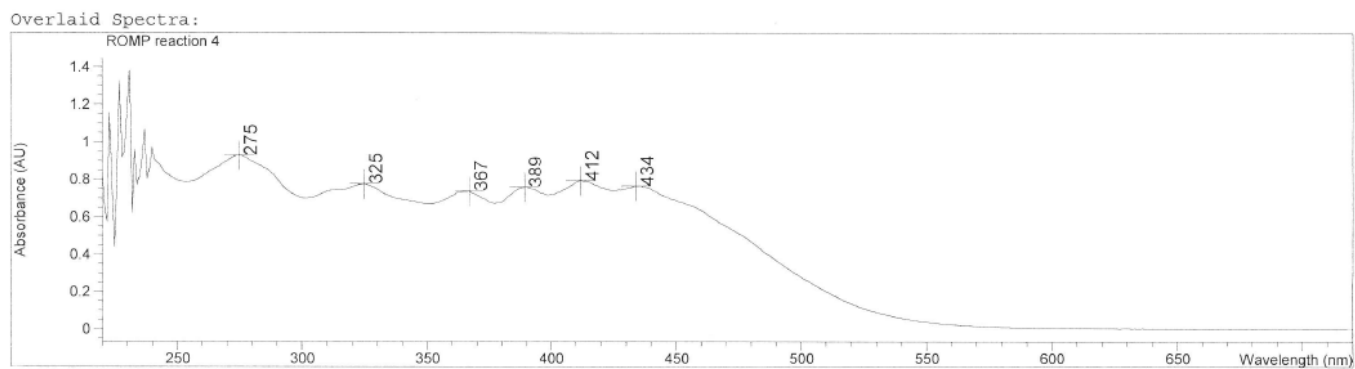

Figure 6 UV-vis spectrum of end functionalised polyacetylene for Reaction 4
The mechanism of polyCOT growth is shown in Figure 6 from the paper by Hilf and Kilbinger13 and reproduced below.
**Figure 6 | Mechanism for the formation of telechelic polymers by application of chain-transfer agents (CTAs).** The incorporation of the CTA, and therefore the molecular weight determination, relies on both the polymerization kinetics and the equilibration of the CTA into the polymer by cross-metathesis. Polymers with low polydispersity index can be obtained by pulsed addition of monomer to a highly reactive catalyst in the presence of a CTA. FG: functional group.